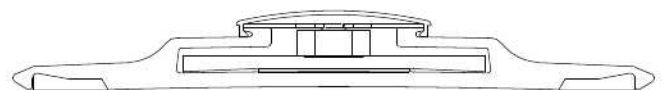

Figure 13.1 Joint Bolt Cover
9.1.7 For other than IP40 busway, remove the joint covers and install the joint bolt cover by engaging the grooves on the top plate of the joint stack and sliding the cover across the top of the joint stack plate until centered. (Figure 13.1)
9.2.1 For other than IP40 busway, remove the joint covers and install the joint bolt cover by engaging the grooves on the top plate of the joint stack and sliding the cover across the top of the joint stack plate until centered. (Figure 13.1)